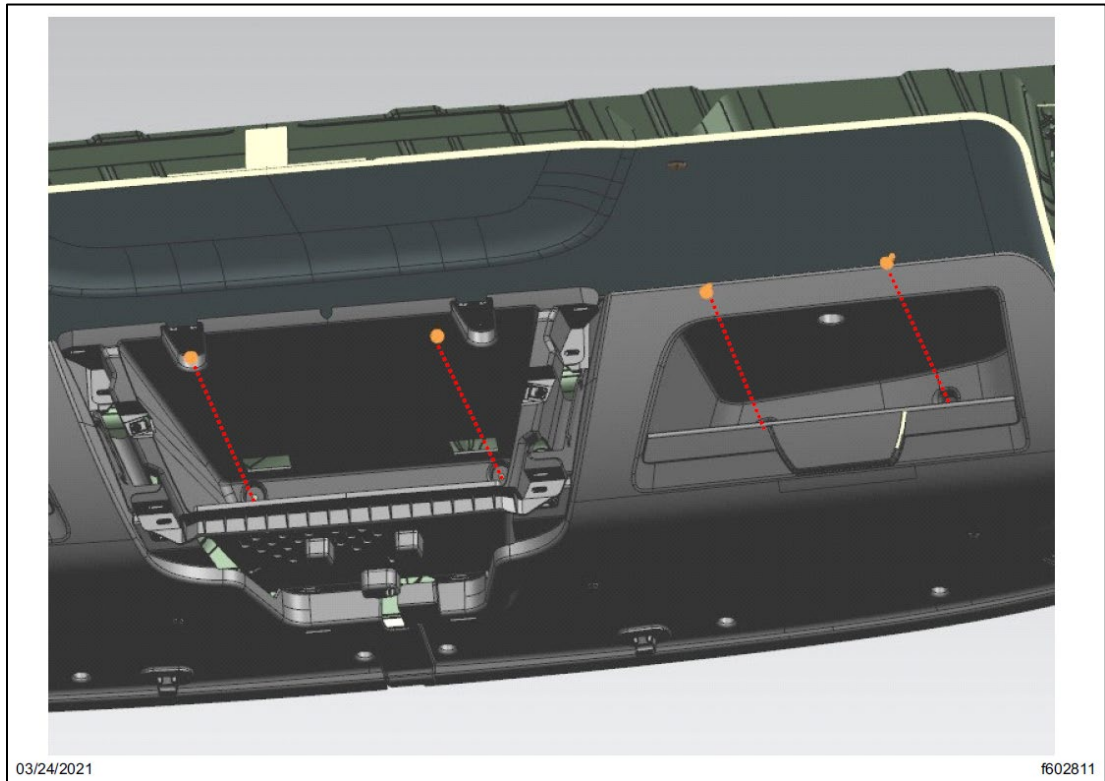

Fig. 17, Fasteners Attaching the Center Storage Bin and the RH Side Overhead Storage Assembly to the Cab Roof
- 2.4. Remove the fasteners that attach the center storage bin and the RH side overhead storage assembly to the cab roof. See Fig. 17.